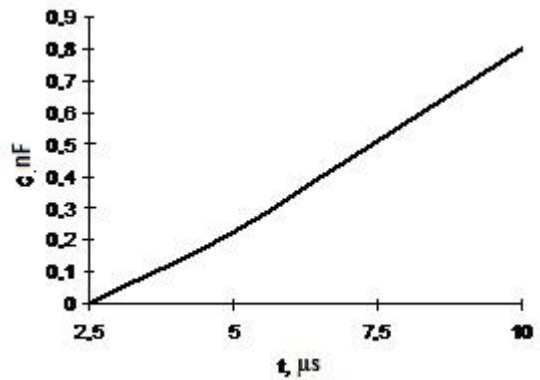

Figure 8 – Graph of protection activation duration delay dependence versus capacity nominal  $C_{trip}$
**CTRIP H1, CTRIP H2, CTRIP L1, CTRIP L2** – adjustment capacitors of protection activation duration delay at non-saturation of relevant controlled transistor. When supplying the capacitors are installed corresponding to duration delay 3.6  $\mu\text{s}$ . Duration delay dependence of protection activation at non-saturation from the nominal of present capacitors is shown on Figure 8.